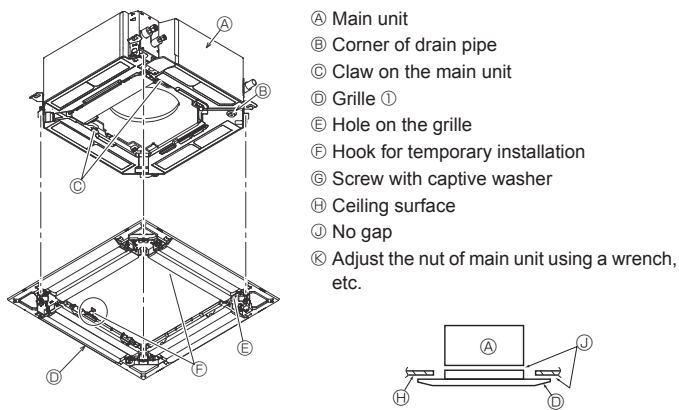

Fig. 9-6
9.4.2. Temporary installation of the grille (Fig. 9-6)
- By tightening the pre-installed screws, fix the grille onto the main unit. (Fig. 9-6)
Make sure there is no gap between the main unit and the grille or between the grille and the ceiling surface. (Fig. 9-6)